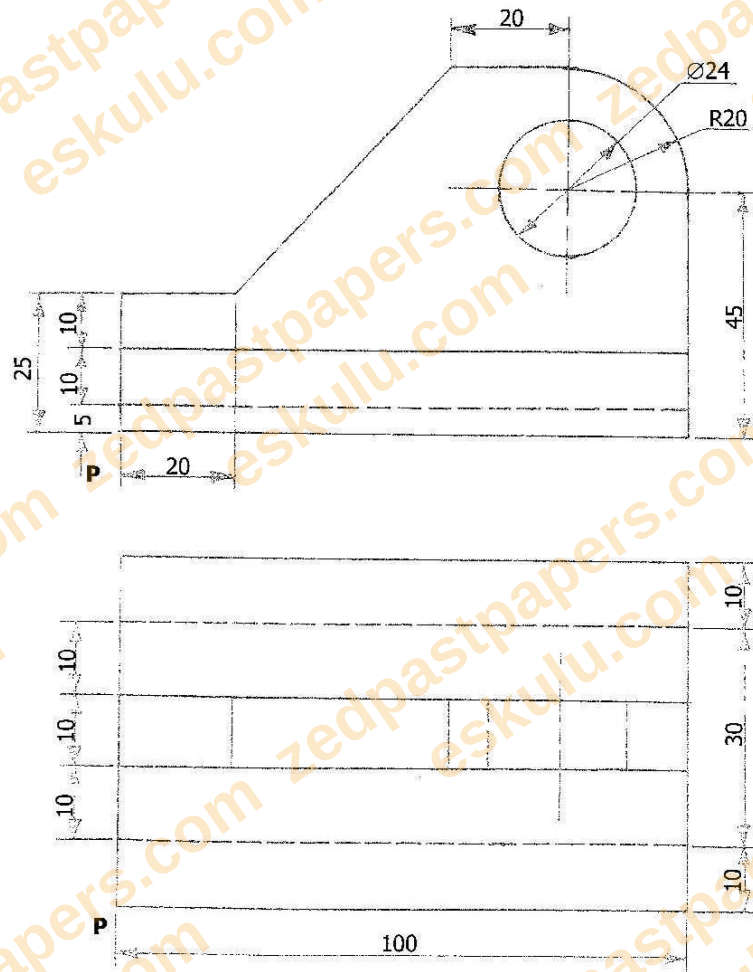

Figure 1
- 1** **Figure 1** shows a **CASTING BRACKET** in first angle projection. Make a freehand pictorial sketch of this component – approximately full size with **P** as the lowest point in the foreground.
Question 1. SECTION 1 [16]. Figure 1 shows a CASTING BRACKET in first-angle projection (a wedge/ramp base with a rounded $\text{Ø}24/\text{R}20$ boss at the top, 100mm-long stepped rear profile). Make a freehand pictorial sketch, approximately full size, with point P as the lowest point in the foreground, no instruments.